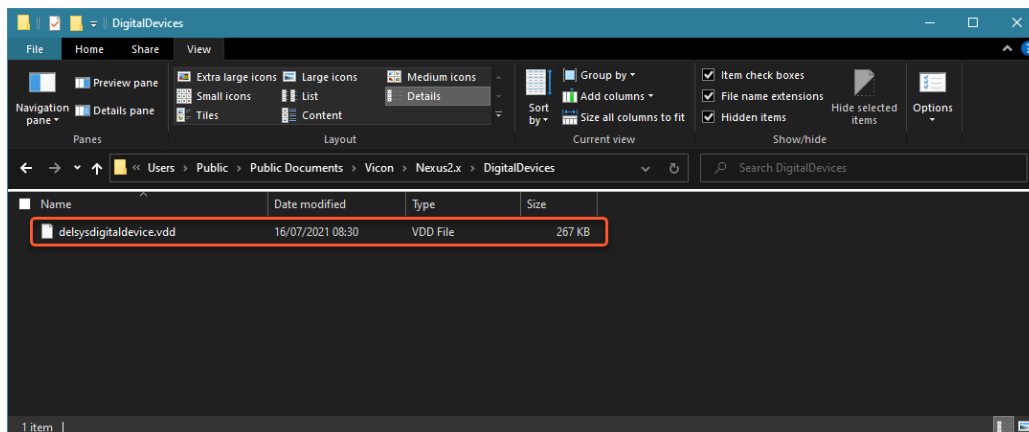

Figure 3: Screenshot of the necessary file path for the .vdd file.
- b) Place the **delsydigitaldevice.vdd** in the *DigitalDevices* folder (Figure 3).